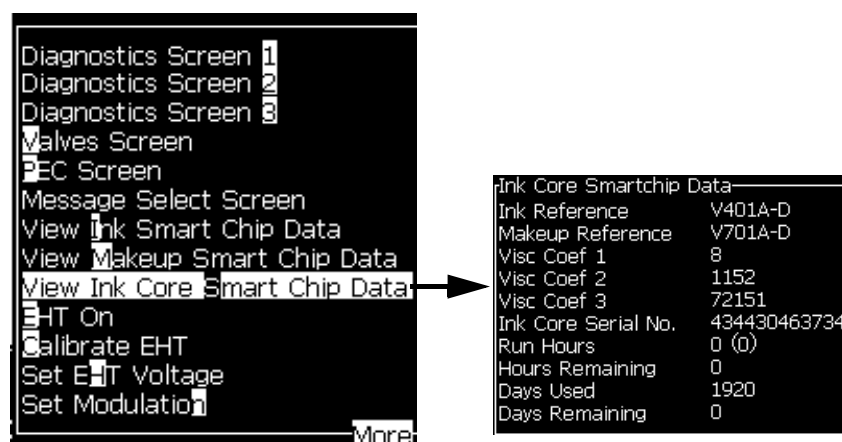

Figure 4-17: View Ink Core Smart Chip Data
- 1 Select *View Ink Core Smart Chip Data* from *Calibrate* menu (Figure 4-17) to view ink core run hours, ink core days used and days remaining. The ink core run hours is reset only after ink core change.